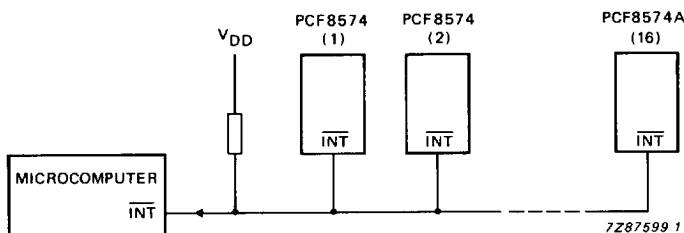

Fig.12 Application of multiple PCF8574s with interrupt.
**Interrupt** (see Figs 12 and 13)